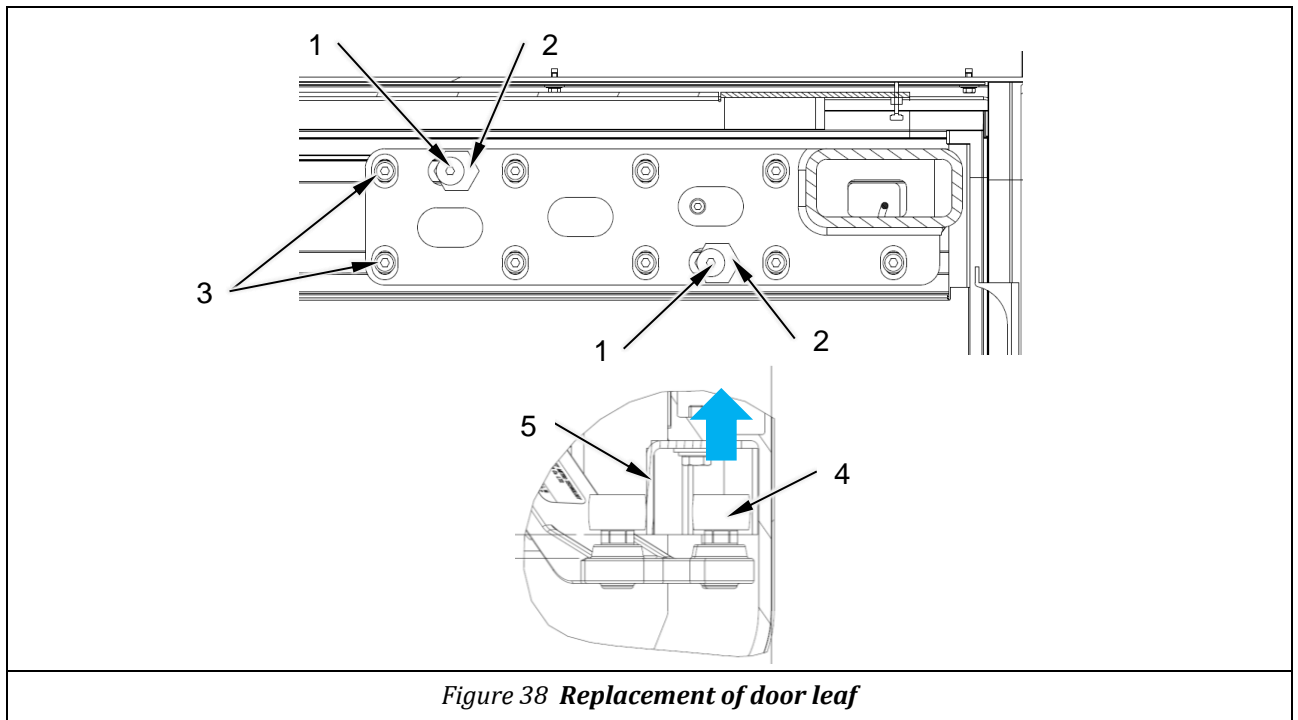

Figure 38 Replacement of door leaf
- 3) Loosen the fixing screw (*item 1 Figure 38,*) for eccentrics (*item 2 , Figure 38*), and remove the eccentrics
- 4) Loosen the fixing screw (*item 3, Figure 38*) for door leaf
- 5) Lift up the door leaf to make the lower rollers (*item 4,*) go out from the lower guiding rail (*item 5, Figure 38*)
- 1) Lift the door leaf to make the lower guiding rail (*item 5 Figure 38,*) a little bit higher than the rollers (*item 4,*)
- 2) Insert the rollers (*item 4, Figure 38*) into the guiding rail (*item 5, Figure 38*)
- 4) Fix the door leaf with driving arm with 9 screws (*item 3, Figure 38*) ; slightly tighten the screws ;